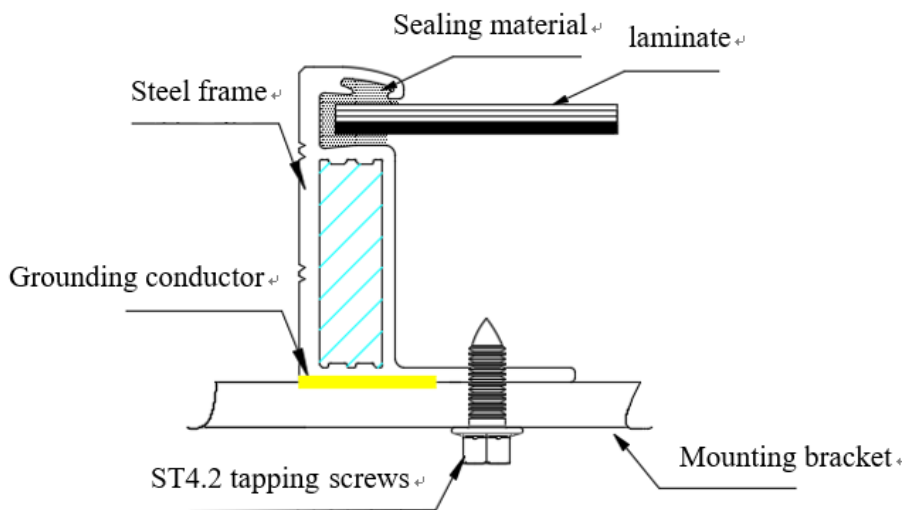

Fig.11.2 ST4.2 tapping screws grounding
- **On a grounding hole with a diameter of $\phi 4$ mm, use a separate grounding wire and related accessories to connect the frame and connect the grounding wire to the ground. M4 x 12mm ground bolts with M4 nuts, star washers and plain washers are recommended for the aluminum frame, M4 tapping locking screws or ST4.2 tapping screws are recommended for high-strength alloy steel frames, see fig.11.2, this ensures that the modules are firmly grounded. You can find the corresponding product drawing in module datasheet to know the detailed number, size and position of the grounding holes. The torque applied to ground fixation is 4N· m~8N ·m.**